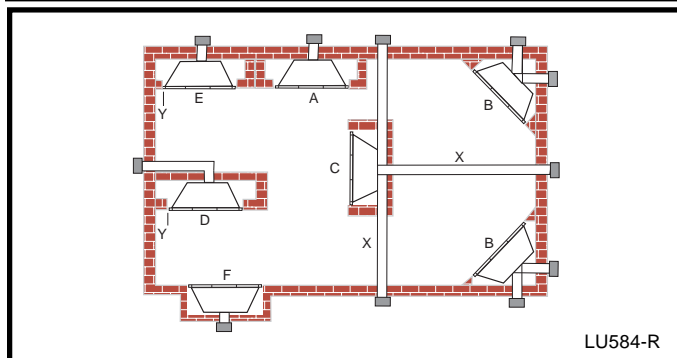

Fig. 1 Locate gas fireplace.
NOTE: (fig. 1)
** Island (C) and Room Divider (D) installation is possible as long as the horizontal portion of the vent system (X) does not exceed 20 feet (610cm). See details in Venting Section.
* When you install your fireplace in (D) Room divider or (E) Flat on wall corner positions (Y), a minimum of 6 inches (153mm) clearance must be maintained from the perpendicular wall and the front side edge of the fireplace.
See (Y) in Fig. 1.